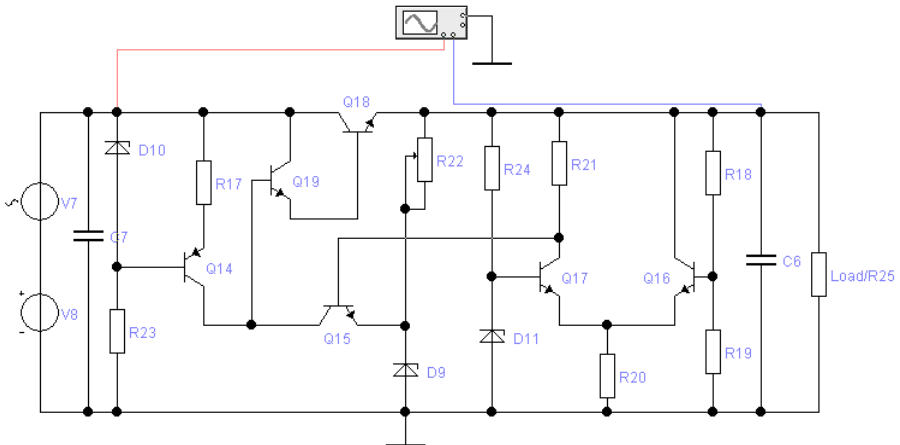

Figure 11.1 – Principle diagram of the compensating stabilizer
1 Collect the diagram shown in fig. 11.1 (Regulate in the Samples folder)
2 Increase voltage source V7 (see fig. 11.1)
6. Increase the voltage of the $V8$ source (see fig. 11.1).
8. Repeat items 6, 7 until the shape of the output voltage is distorted.